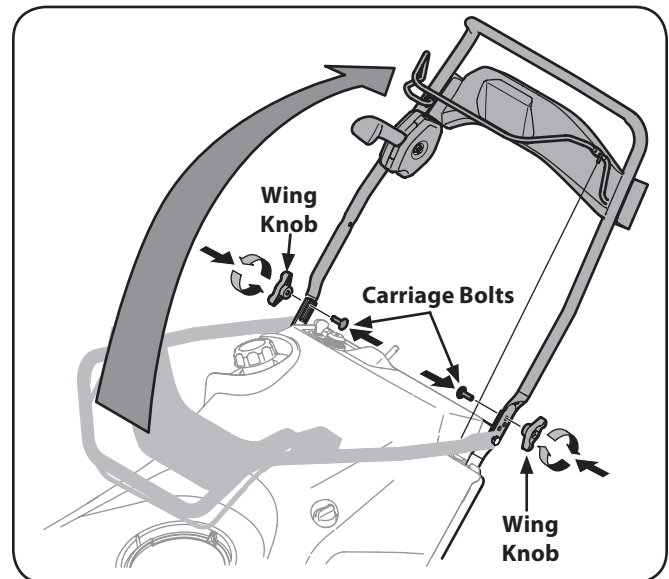

Figure 3-2
2. Pivot the upper handle into the operating position. Be sure not to pinch any of the cables in the process. See Fig. 3-2.